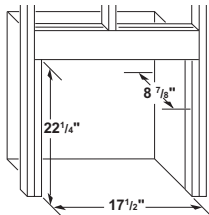
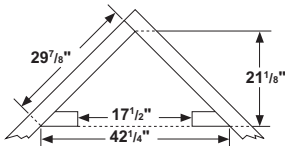

Figure 7 - Rough Opening for Installing in Wall
Figure 8 - Rough Opening for Installing in Corner
1. Frame in rough opening. Use dimensions shown in Figure 7 for the rough opening. If installing in a corner, use dimensions shown in Figure 8 for the rough opening. The height is 22 ¹/₄" which is the same as the wall opening above.